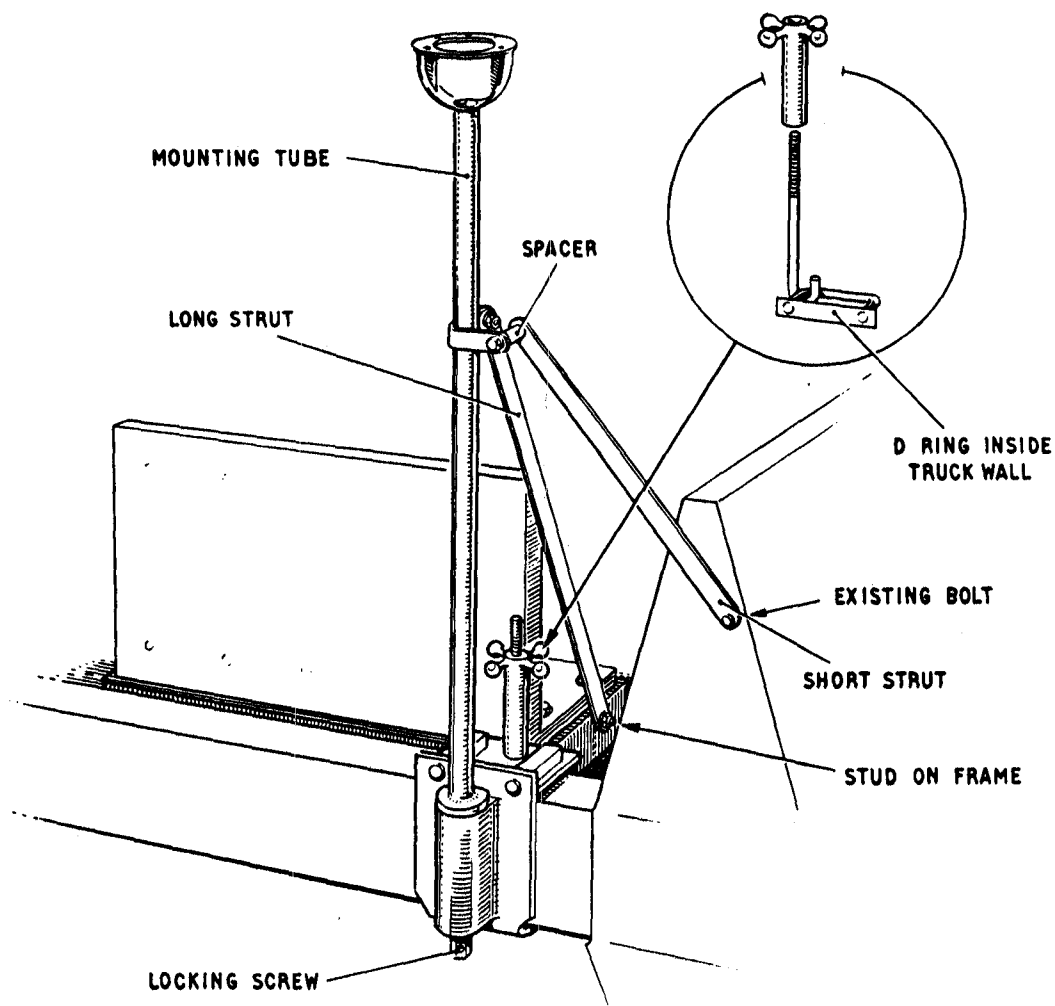

FIG. 2 FITTING THE ANTENNA BRACKET
13. If the detachable body sides have been removed from the truck, use the short antenna bracket provided in the adapter kit. See fig. 2. Fit it on the same side as the radio as follows: Hook the bottom of the bracket under the truck side wall, position the loosely rivetted top flap over the top of the wall, engage the clamping hook in the adjacent 'D' ring bolted to the wall for lashing down cargo. Tighten the nut firmly to hold the bracket.
16. Bolt the two bracing struts to the lugs on the tube, the long one across the vehicle and the short one to the front. Note that a 15 mm ($\frac{5}{8}$ -in.) spacer has to be fitted between the top of the short strut and the lug on the tube to keep the strut in line with the side of the truck. See fig. 2. Then fasten the long strut to the stud on the side of the frame which holds the radio and the short strut to an existing bolt on the side of the truck. Screws, nuts, spring washers, flat washers, etc., are provided with the mounting.